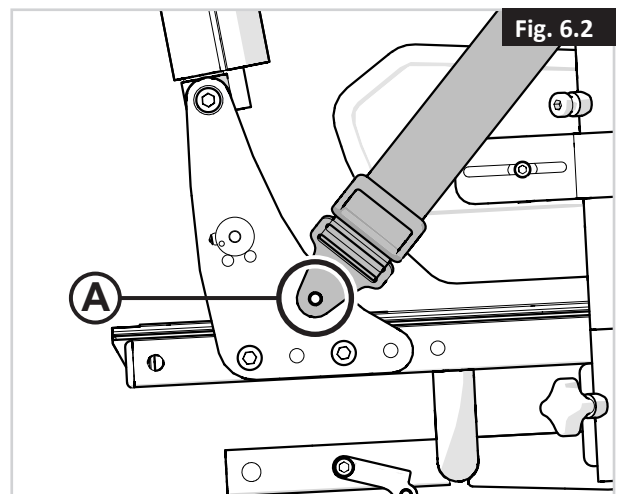

Fig. 6.2
1. Attach (A) to the seating frame using a screw on the left and on the right. (Fig. 6.2)